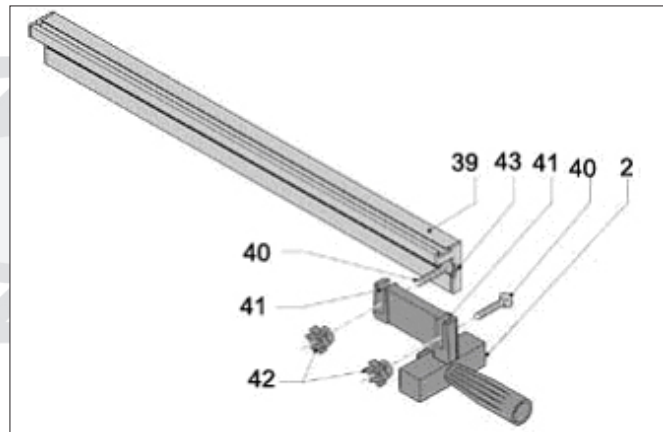

Figure 10
Push two bolts (40) into one of the profiles on the parallel guide and secure them at the handle's recesses (41) by means of the finger screws (42) as shown in figures 10 and 11. Note that the parallel guide can be turned two different ways so it is either wide or narrow.